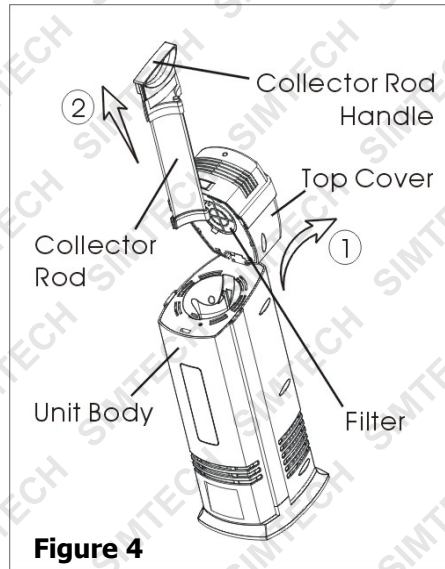

Figure 4
REMOVING/ CLEANING/INSTALLING THE COLLECTOR ROD (See Figure 4)
2. Press the release button and flip the top cover backward; (See Figure 4 and consult the indication of arrow ①)
3. Grip the collector rod handle and pull it up firmly. (See Figure 4 and consult the indication of arrow ②)